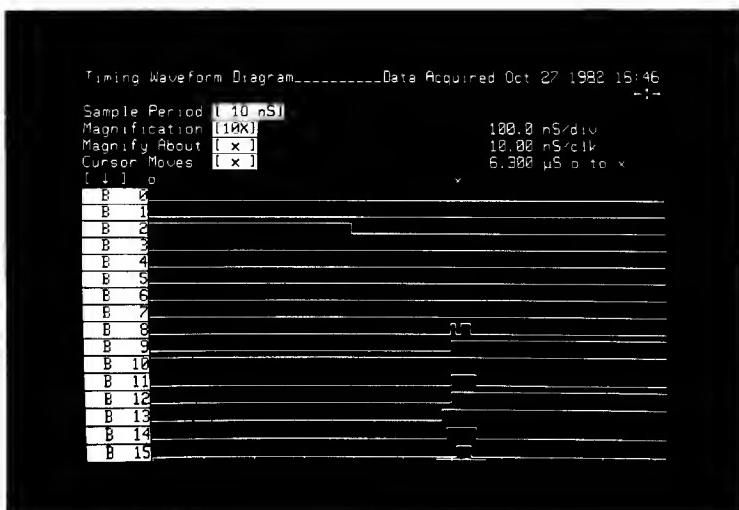

Figure 3-13. Magnification Around “x”
6. Press the NEXT[] key several times to see that magnification of the display occurs around the area in memory you selected by the positon of “x”. See figure 3-13.